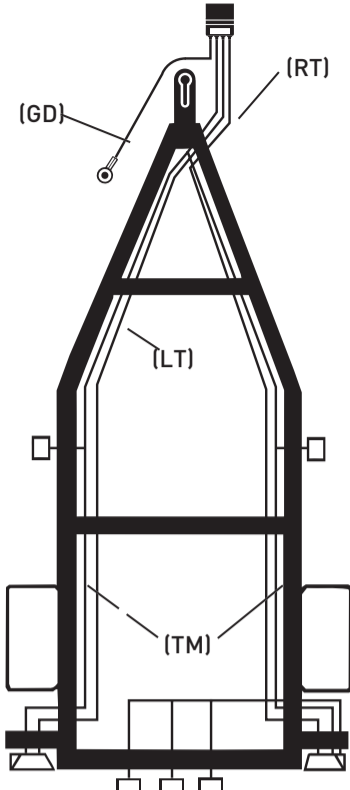

Figure 1
2. Attach wires of the 25 foot connector to the corresponding function wires as determined in Figure 1. Leave approximately 18 inches of slack between the trailer and the tow vehicle to allow the trailer to turn.